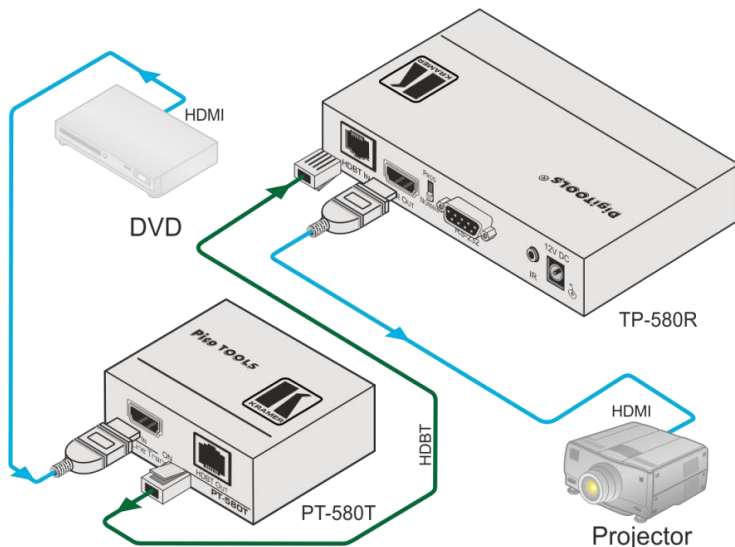

Figure 9: Connecting the PT-580T/TP-580R Transmitter/Receiver Pair
To connect the **PT-580T** to a receiver (for example, the **TP-580R**), as illustrated in the example in Figure 9, do the following:
4. Connect the 5V DC power adapter to the power socket on the **PT-580T** and the 12V DC power adapter to the power socket on the **TP-580R** and connect the adapter to the mains electricity (not shown in Figure 9).